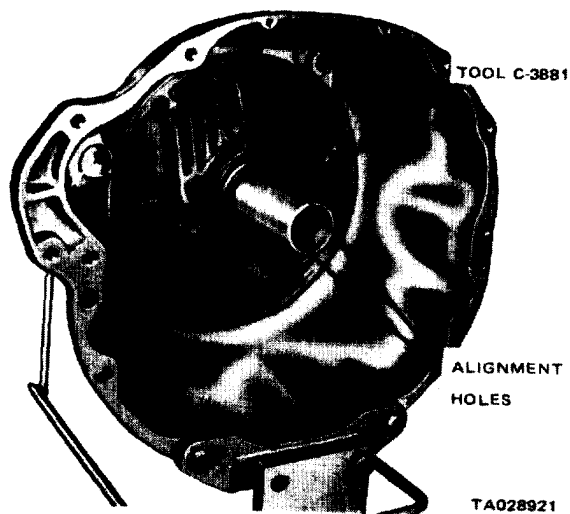

Figure 4-37. Alining Pump Rotors.
- a. Rotate the pump rotors with tool C-3881 until the two small holes in the handle are vertical (figure 4-37).